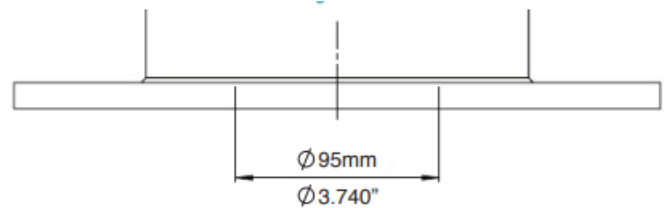

Figure 3
- Ensure this area at the base of the buffer, shown in figure 3 is supported.